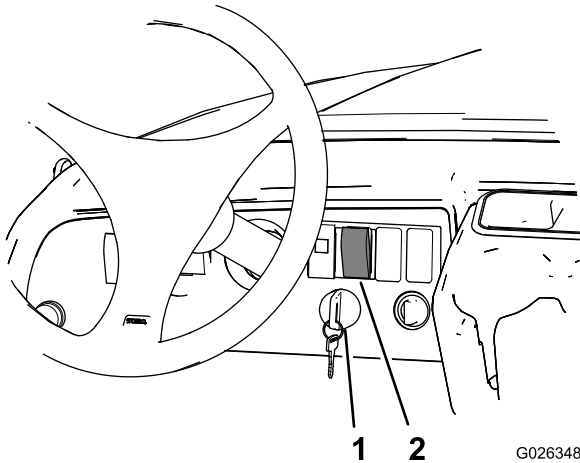

Figure 6
1. Rotate the key switch to the On position (Figure 6).
2. Press the upper half of the cargo box lift switch until the cargo box is fully raised (Figure 6).
3. Rotate the key switch to the Off position (Figure 6).
7. Rotate the key switch to the On position (Figure 6).
8. Press the lower half of the cargo box lift switch until the cargo-box actuator is fully retracted (Figure 6).
9. Rotate the key switch to the Off position (Figure 6).